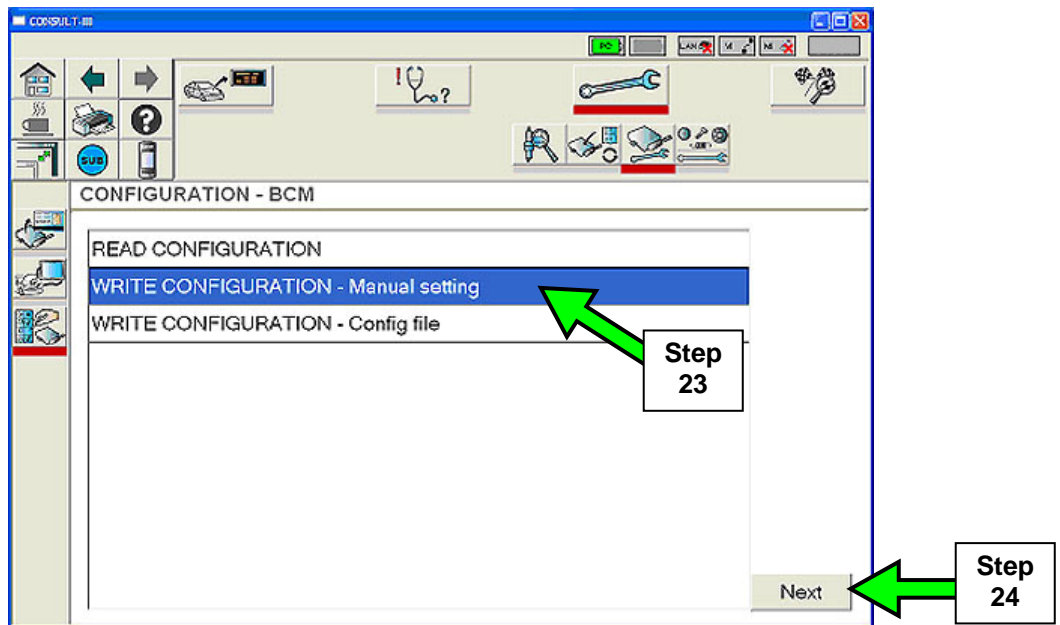

Figure 11
23. Select **WRITE CONFIGURATION – Manual setting**. (See Figure 11.)